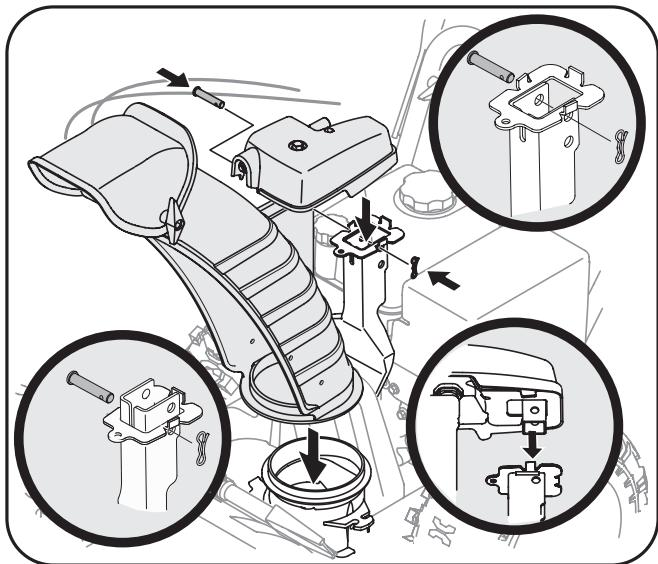

Fig. 3-4
- Place chute assembly onto chute base and secure chute control assembly to chute support bracket with clevis pin and cotter pin removed earlier. See Fig. 3-4.